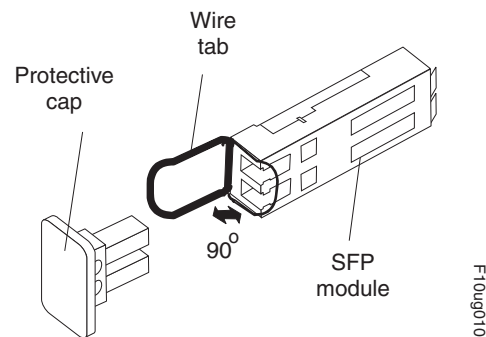

Figure 31. Unlocking the SFP module latch - wire variety
- For SFP modules that contain wire tabs, unlock the SFP module latch by pulling the wire latch outward 90°, as shown in Figure 31.